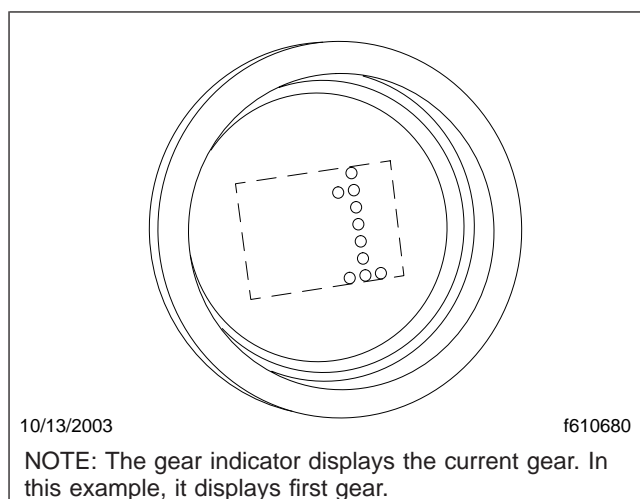

Fig. 8.16, Current Gear Display
In either mode, the gear indicator displays the current gear. See Fig. 8.16.
Drive (D) is directly below N on the four-position selector switch located at the end of the SmartShift control lever. To select D, press in the neutral lock button and move the selector switch to the position below N. When drive is selected, the number of the currently selected forward gear (1 through 6 on six-speed UltraShift ASW; 1 through 10 on ten-speed UltraShift DM) displays on the gear indicator. See **Fig. 8.16.**